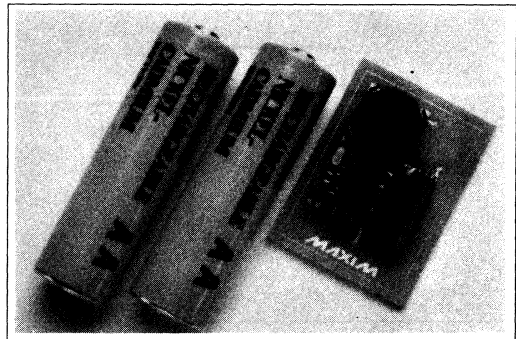

Figure 10. This MAX655 surface-mounted power supply features compact and high-energy SMT inductors.
Some power supply circuits, however, require magnetics to achieve galvanic isolation or high input/output ratios. Coiltronics' CTX-series parts are shown in the MAX655 and MAX742 SMT-board photos of Figures 10, 12. To obtain PC artwork and a parts list for these SMT applications, call Maxim Applications at (408) 737-7600.